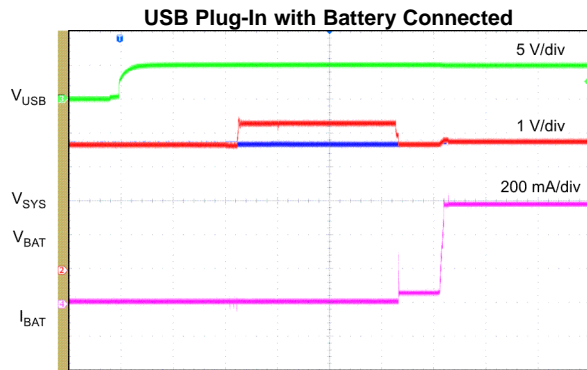

**Figure 1. bq24165, Shown with External Discharge FET, PA Connected to System for GSM Call Support with a Deeply Discharged or No Battery**
The charger's constant current (CC) loop regulates the charge current to  $I_{CHARGE}$  until the battery reaches close to the regulation voltage. Once the battery voltage is close to the regulation voltage,  $V_{BATREG}$ , the charge current step downs sharply as the constant voltage (CV) loop takes over, the internal battery FET turns on full, tying SYS to BAT and the charger tapers down the charge current as shown in Figure 1. The voltage regulation feedback occurs by monitoring the battery-pack voltage between the BAT and PGND pins.